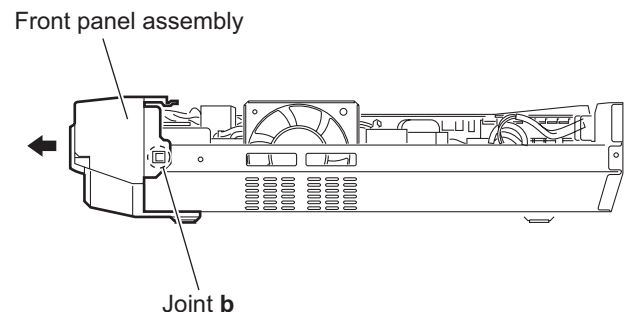

Fig.4
- (3) From the both sides of the main body, release the joints **b** and remove the front panel assembly in the direction of the arrow. (See Fig.4.)